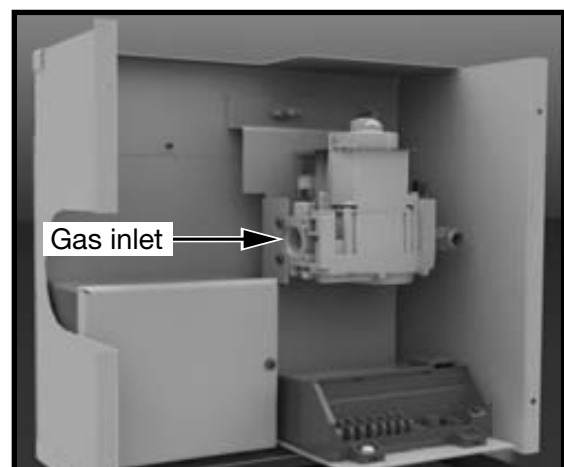

Figure 28: Gas inlet.
6. Connect the gas supply to the valve (Figure 28).
1. Connect the gas supply to the valve (Figure 28).